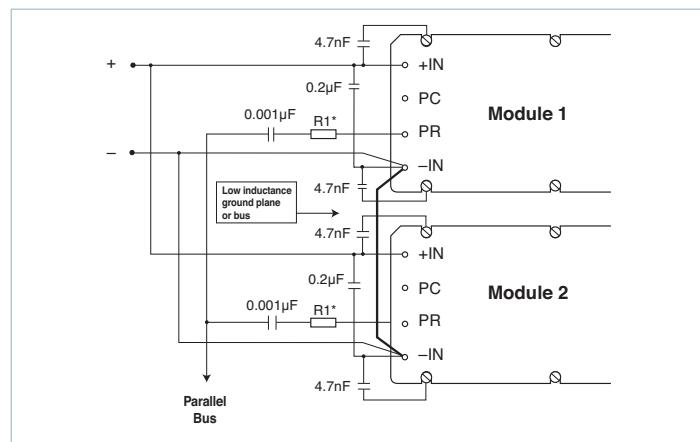

Figure 9 — AC-coupled single-wire interface
**AC-coupled single-wire interface.** All PR pins are connected to a single communication bus through  $0.001\mu F$  (500V) capacitors. This interface supports current sharing and is fault tolerant except for the communication bus. Up to three converters may be paralleled by this method. See Figure 9.